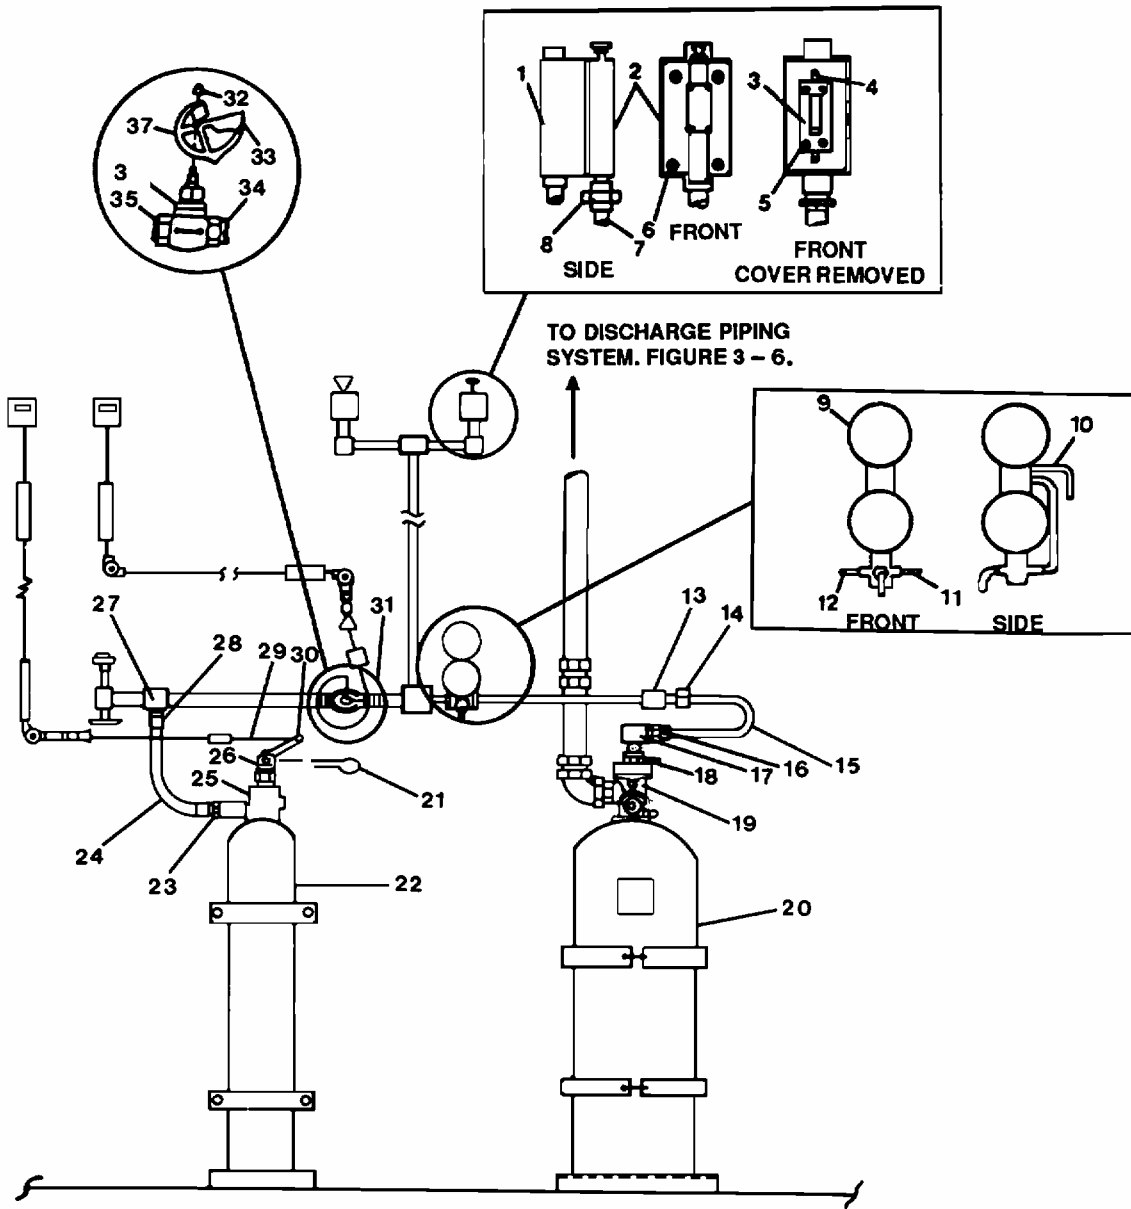

FIGURE 3-4. Halon Subsystem - Paint Locker/Main Machinery Room.
- (1) Release lever.
- (a) Install pin (21, Figure 3-4) in release lever (26).
- (b) Disconnect cable (29) from cable mount (30) on release lever.
- (c) Unscrew and remove release lever (26) from cylinder valve (25) on carbon dioxide cylinder.
- (2) Hose assembly.
- (a) Disconnect discharge hose connector (23) from cylinder valve (25).
- (b) Disconnect hose connector (28) on opposite end of discharge hose (24) from pipe fitting (27).
- (1) Disconnect cable (3, Figure 3-4) from cable mount (33) on sector handle (37).
- (2) Remove nut (32) and remove sector handle from valve (36).
- (3) Disconnect piping (34, 35) from valve.
- (4) Remove valve.
- (1) Position switch (3, Figure 3-4) in housing body (1) with mounting screw holes aligned.
- (2) Secure switch with two screws (4).
- (3) Position electrical wire leads on switch.
- (4) Secure wire leads to switch with four screws (5).
- (5) Remove tags from wiring.
- (6) Position cover assembly (2) on housing with switch and mounting screw holes aligned.
- (7) Secure cover assembly with four screws (6).
- (8) Connect pipe (7) to cylinder at union (8).
(3) Electro-pneumatic actuator.
(a) Install actuator (18) in valve (19, Figure 3-4) on halon tank (20).